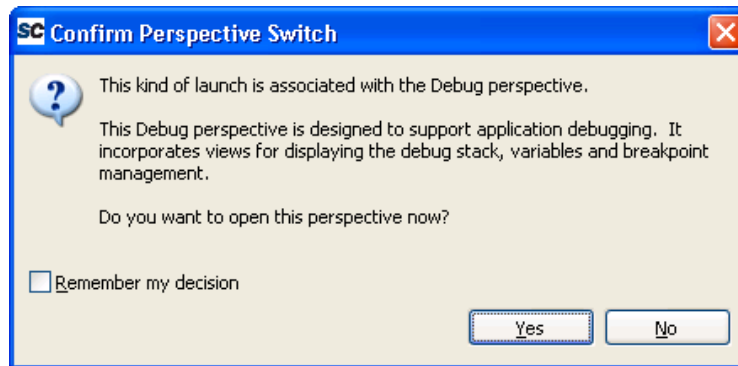

Figure 50 Confirm Perspective Switch
4. Click **Yes** to confirm, as shown in Figure 50.